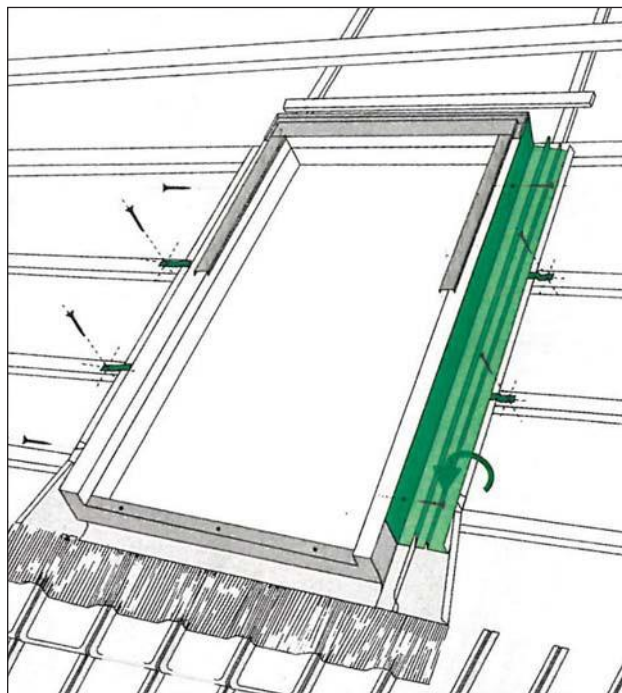

Fig 15
- 17) Position the side flashing (1). Nail them to the frame sides and battens using the metal straps (6). Join the bottom flashing with the side flashing pieces using (3a) (Fig 15).